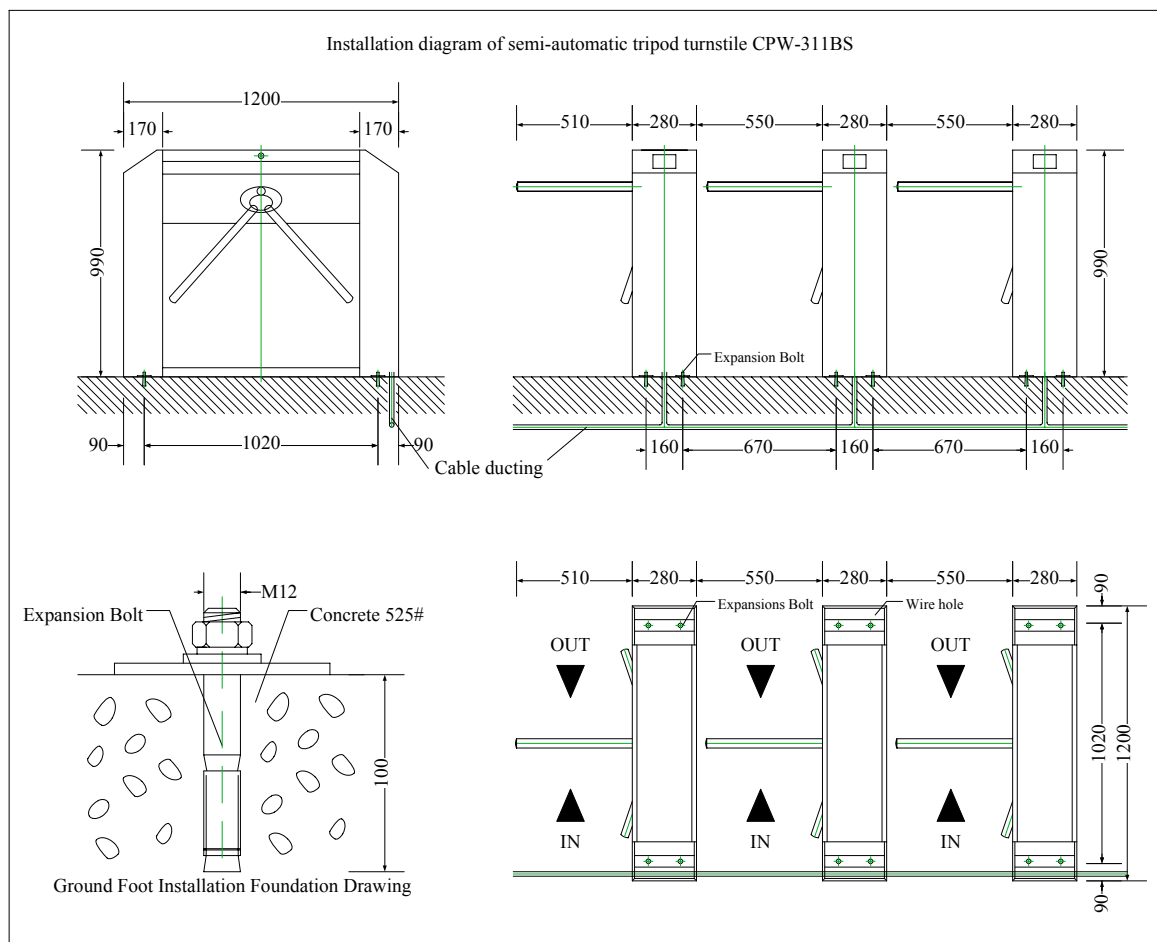

Figure 8
- 3) As shown in Figure 8 for the installation requirements, determine the installation hole
location, bury before hand at the installation location 4 M12 ground screw bolts or 4 M12 inflatable screw bolts, As shown in Figure 8